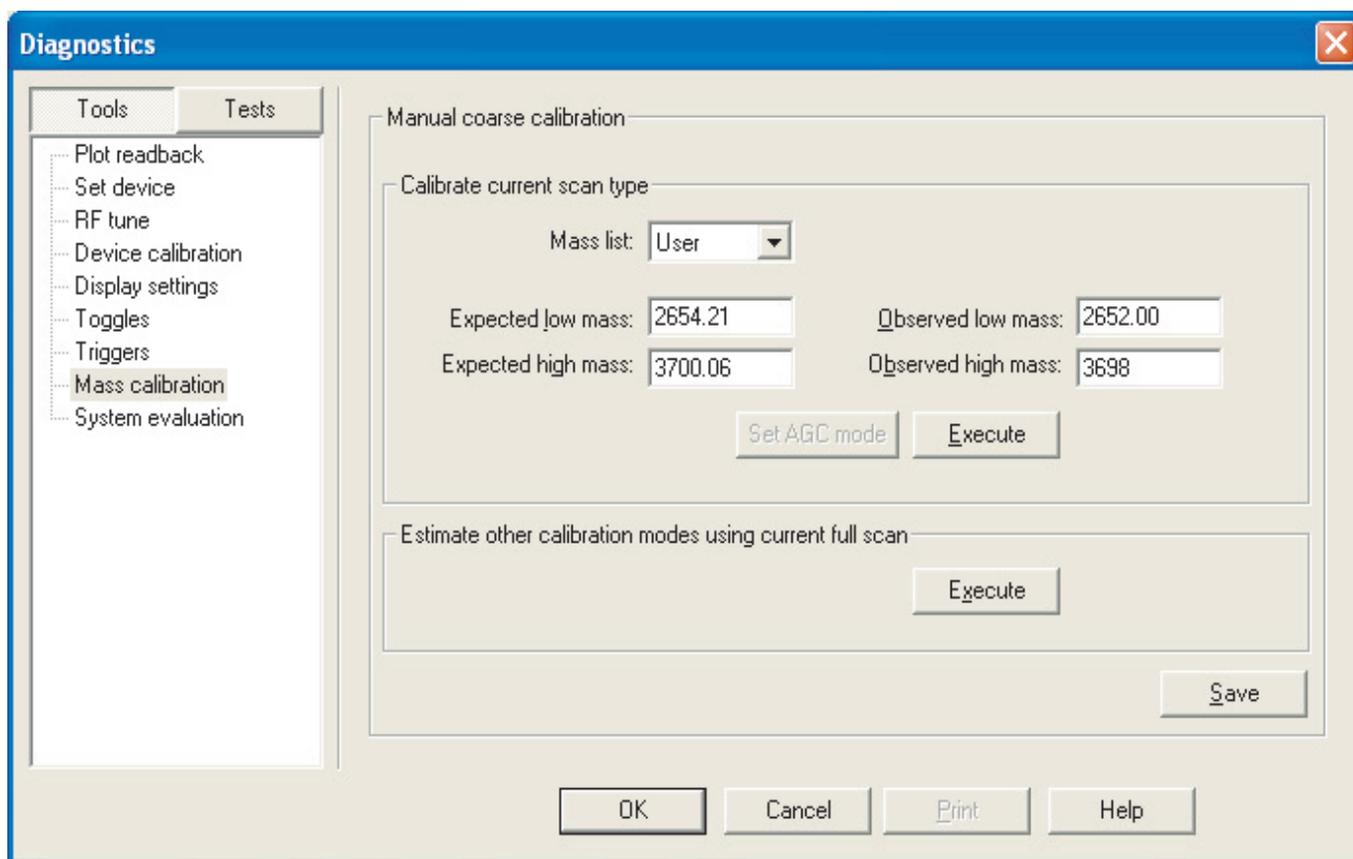

Figure 73. Tune Plus Diagnostics dialog box, two point high mass calibration
3. Do a two-point mass calibration. Use the Tune Plus Diagnostics dialog box (Figure 73). Access the Diagnostics dialog box as instructed in “Enter Normal Mass Range Data into Tune Plus” on page 150. Type the high mass values as shown in Figure 73. Click **Execute**, click **Save**, and close the window.